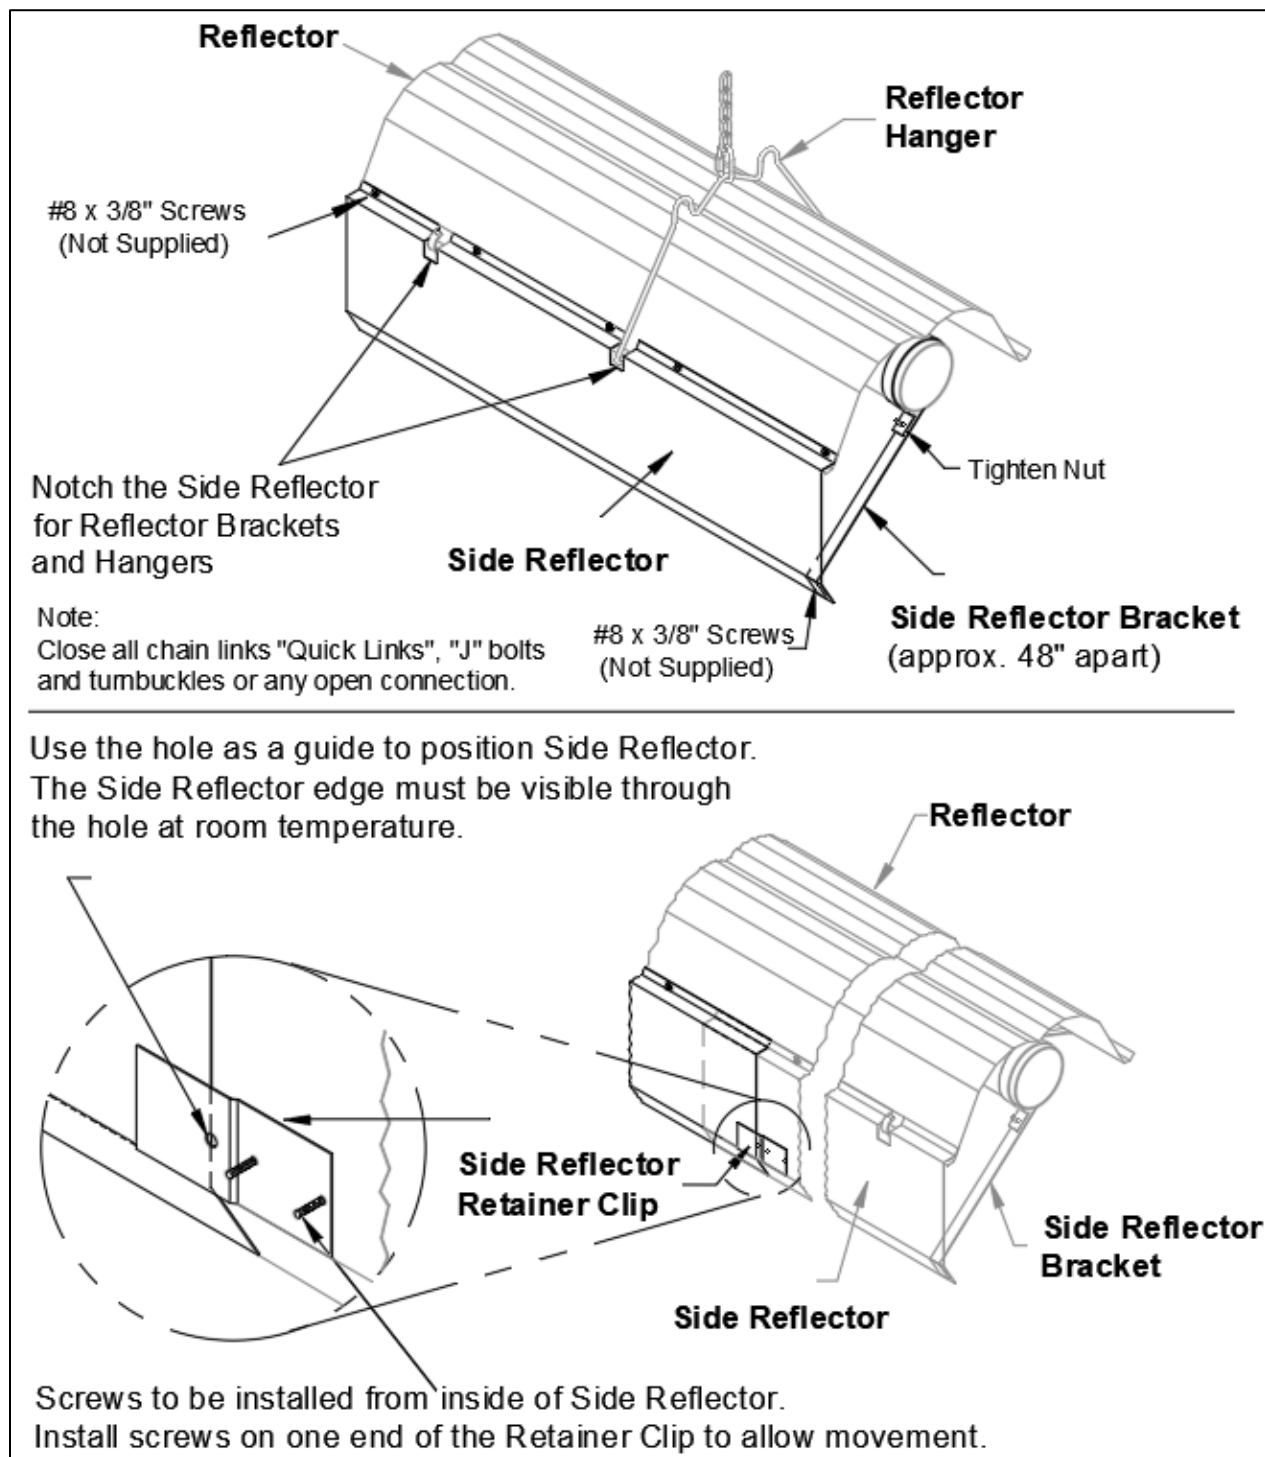
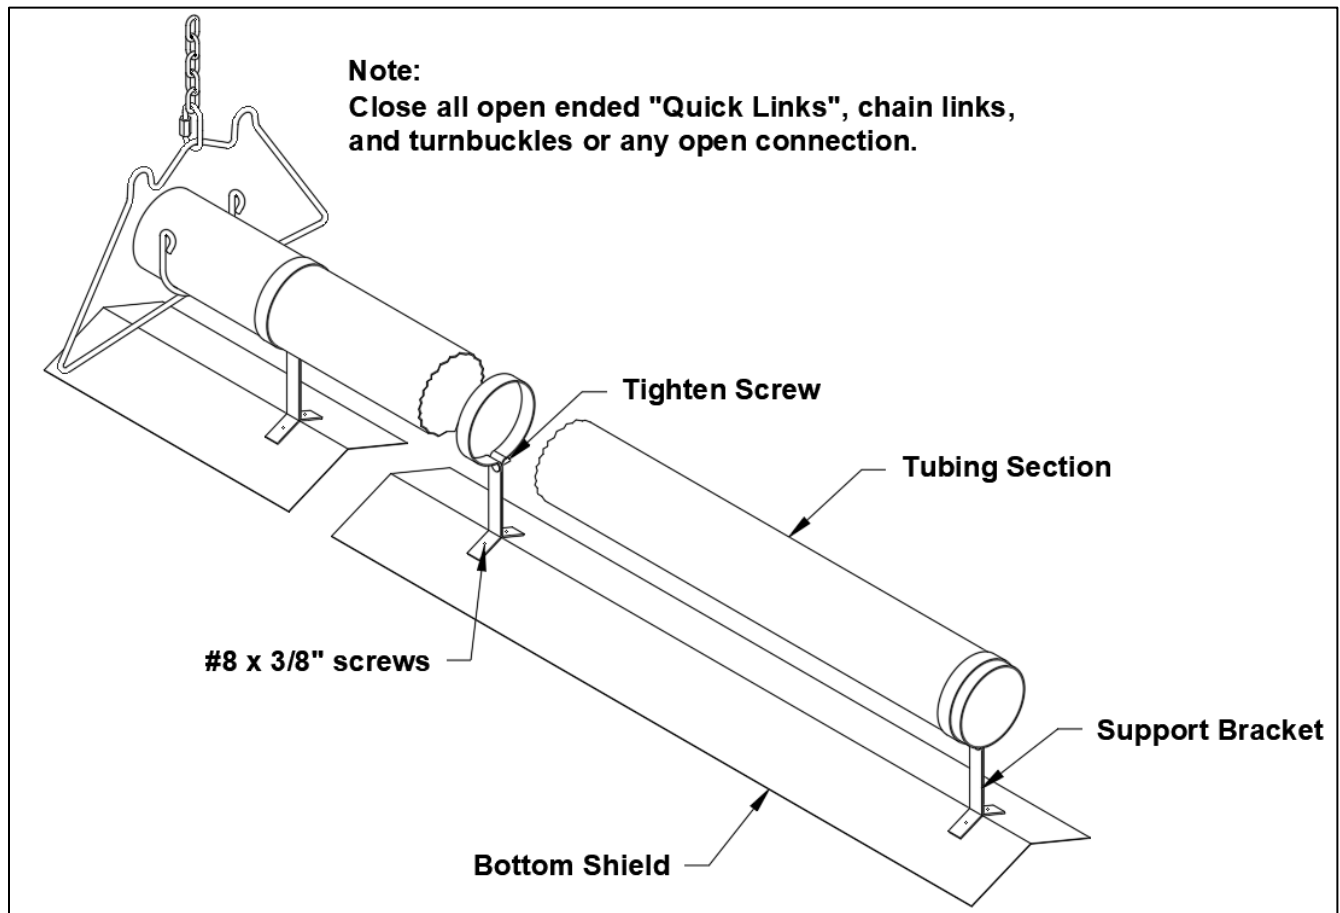

Figure 23: Side Shield Overlap
Figure 24: Bottom Shield Installation
- If used, install side shields (reflectors) and/or bottom shield as required. Refer to Figure 23 and Figure 24 for details.
- Side shields are 124" (315cm) long. Fasten one side shield per reflector with #8 x 3/8" screws. Use three side shield brackets per side shield. Space about 48" (122cm) apart, refer to Figure 23.
- Bottom shields need not overlap. Each 5' section is held with two support brackets (see Figure 24).